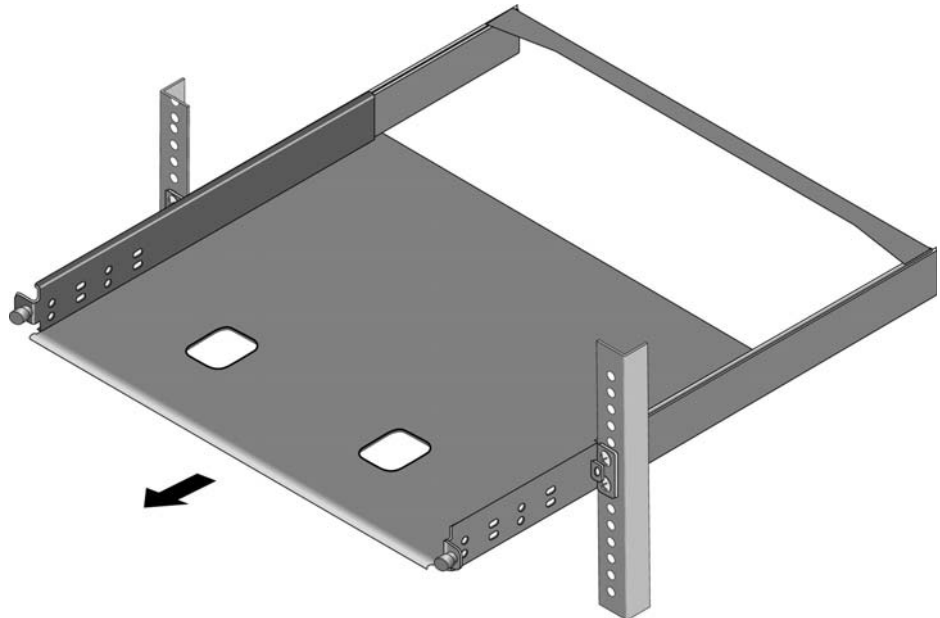

Figure 32. Sliding Out the Tray from the AT-RKMT-J15 Bracket
3. Slide out the bracket tray. Refer to Figure 32.